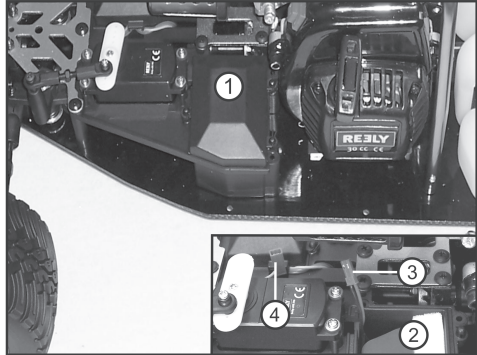

Figure 3
Route the battery connection cable of the on/off switch out of the receiver box (also see figure 3, item 4).
Open the battery box (figure 3, item 1) by pulling off the three clips and insert the receiver battery (figure 3, item 2).
Route the connection cable of the battery out of the battery box (figure 3, item 3) and connect it to the red two-pin BEC plug that was routed out of the receiver box from the on/off switch (figure 3, item 4).